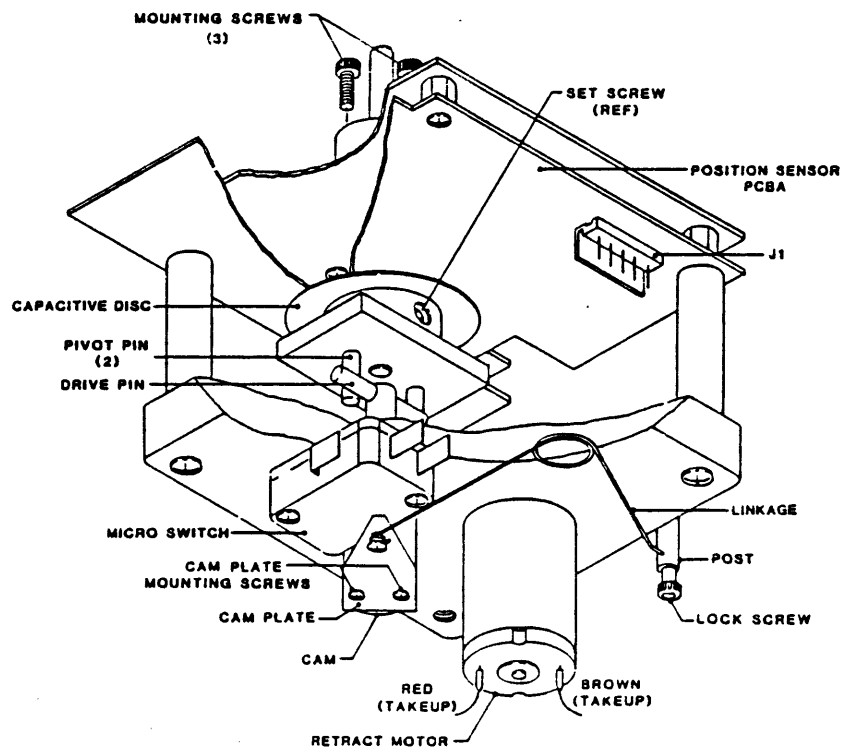

Figure 5-8. Take-up Arm Retract & Pivot Sensor Assembly
5.3.10 RETRACT AND PIVOT SENSOR ASSEMBLIES, TAKE-UP ARM AND SUPPLY ARM (Fig. 5-8)